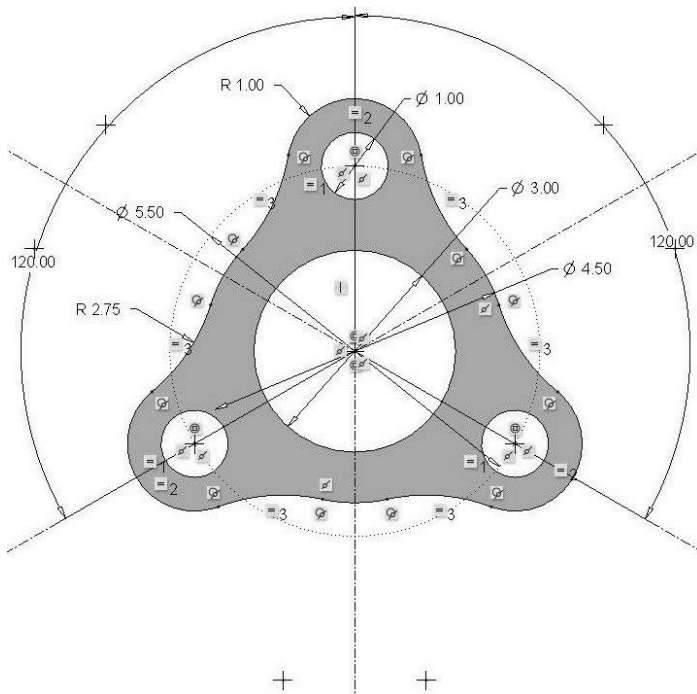

Figure 3-79 Problem 10—Cork Gasket
- 3.10** Draw the "cork_gasket" (Figure 3-79). **Design Intent**—The three holes need to be on a 5.50-inch bolt circle spaced 120° apart. All boundary arcs are tangent to each other. (Note (=3) on numerous arcs equal 2.75 inches or half of the 5.50 bolt circle.) (>File>Options>Sketcher, change to 2 decimal places before sketching. *Pick OK.*)